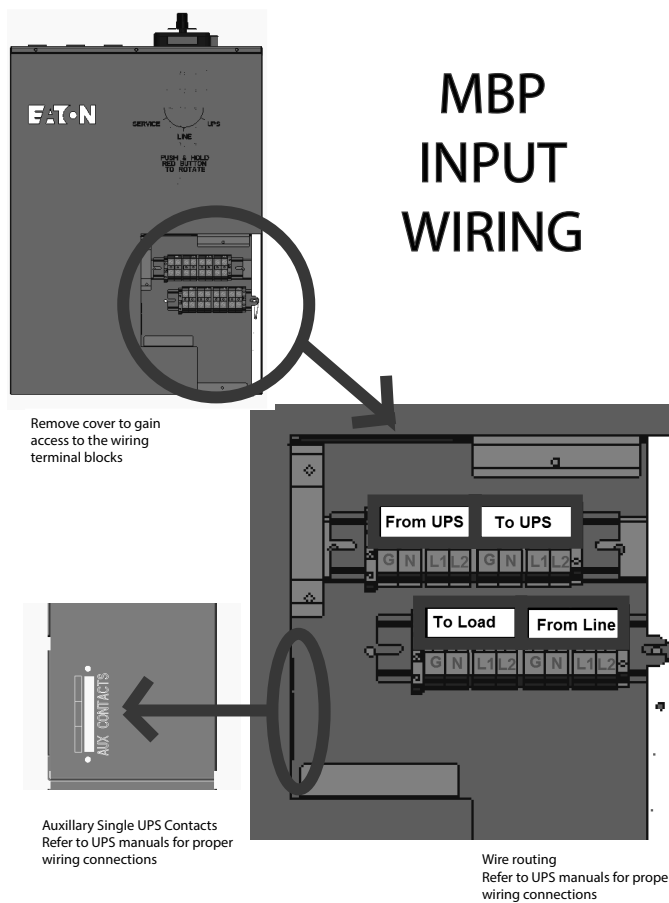

Figure 13. BPM Hardwired Overview
3. Remove the six (6) screws on the BPM front cover and remove the cover. Remove any packing material inside the BPM.
4. Remove the knockouts in the bottom of the BPM as needed for wiring (see Figure 13).